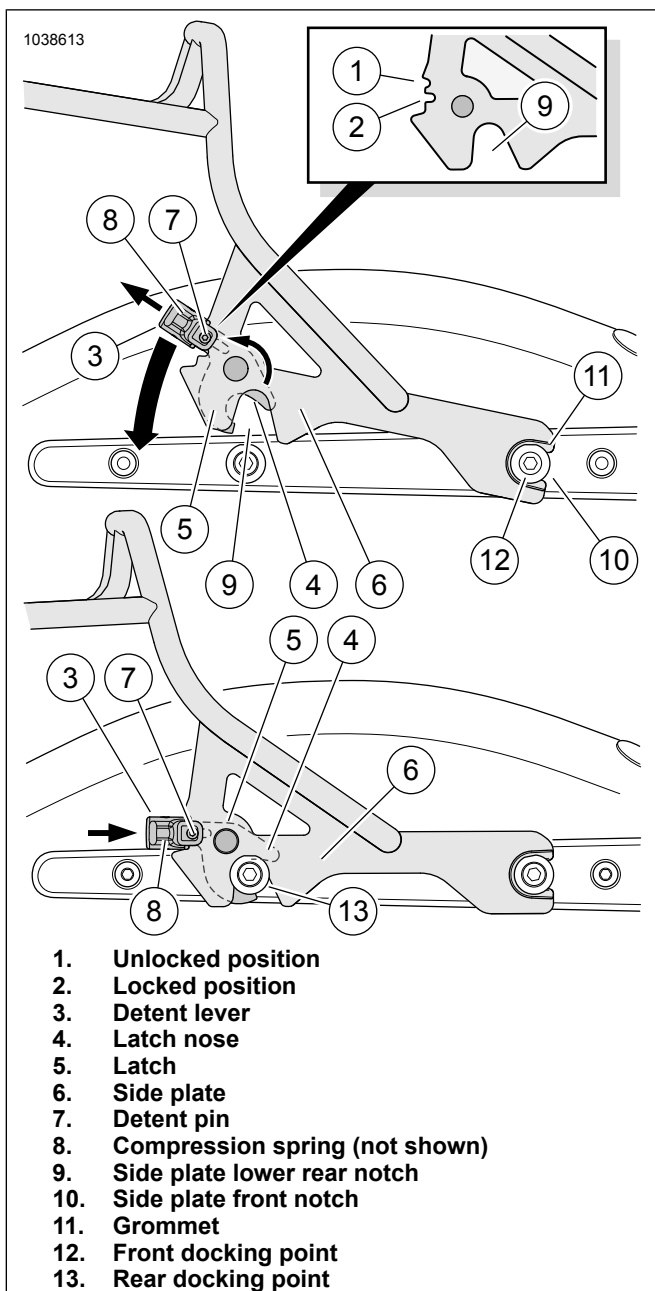
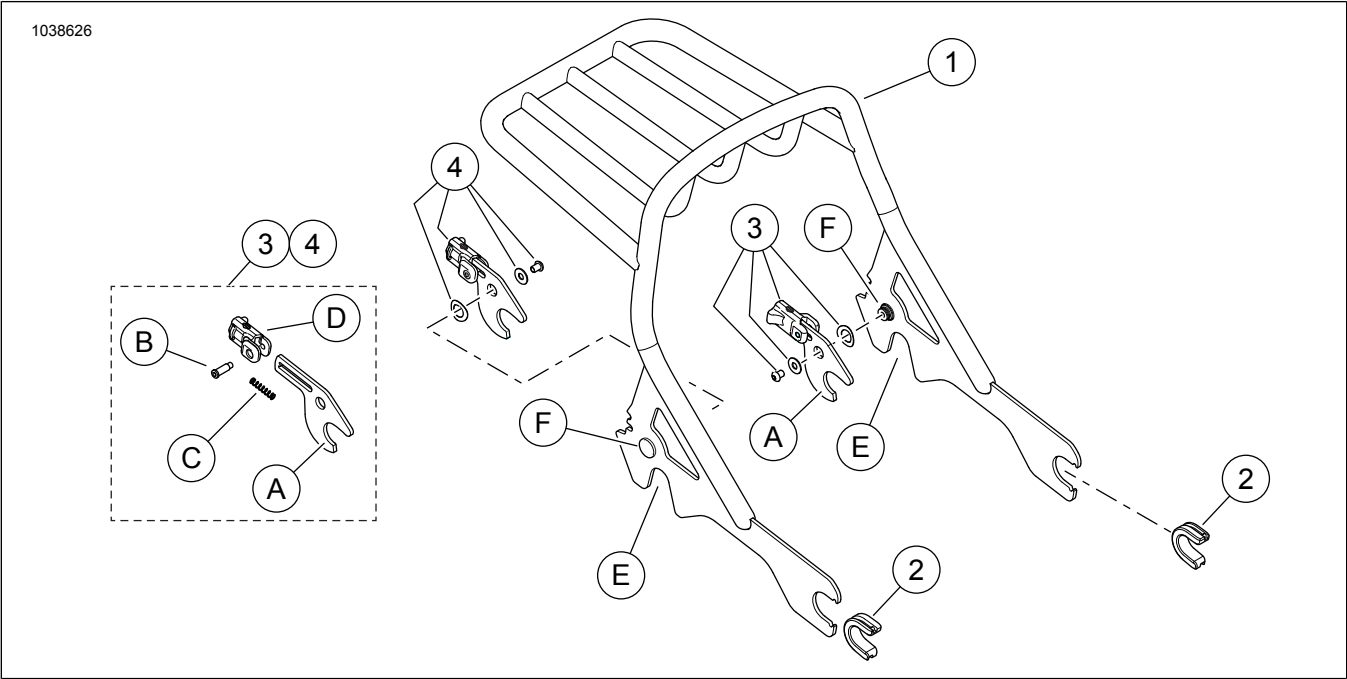

Figure 1. Detachable Luggage Rack Installation
Figure 3. Service Parts, Detachable Luggage Rack Kits
Refer to Figure 3 and Table 1.
1. See Figure 3. Position the right (4) and left (3) latch levers in the unlocked position as shown in Figure 1, upper view (Item 1).
- a. Pull both detent levers (3) rearward against the compression spring (8, not visible).
- b. Rotate the levers upward so each latch nose (4) is positioned inside the lower rear notch (9) of the side plate (6).
- c. Each detent pin (7) is now located in the uppermost (unlocked position) notch.
- d. The compression spring (8) inside the detent lever holds the latch (5) in the unlocked position.
2. Push the luggage rack front notches (10), with grommets (11) in place, firmly and evenly into the **front** docking points (12).
3. See Figure 1, lower view. Swing the rear of the luggage rack side plates (6) downward toward the **rear** docking points (13).
- a. As the side plates (6) move down, the latches make contact with the plastic surface of the rear docking points.
4. As the docking points contact the latches, each latch nose (4) is forced upward.
- a. This causes the pin (7) to move down into the lowermost (2-locked) position on the side plate.
- b. The springs (8) lock each latch firmly in place around the rear docking points.
5. Make sure that detent pins (7) are fully seated against the side plates (6).
- a. If not fully seated, push detent lever (3) forward.
- a. As the levers rotate upward, the latch noses (4) are forced against the rear docking points (Figure 1, Item 13).
- b. This raises the rear of the backrest side plates (6) out of the docking points.
3. Release the detent levers. The springs (8) will move each lever back into the unlocked position (1).